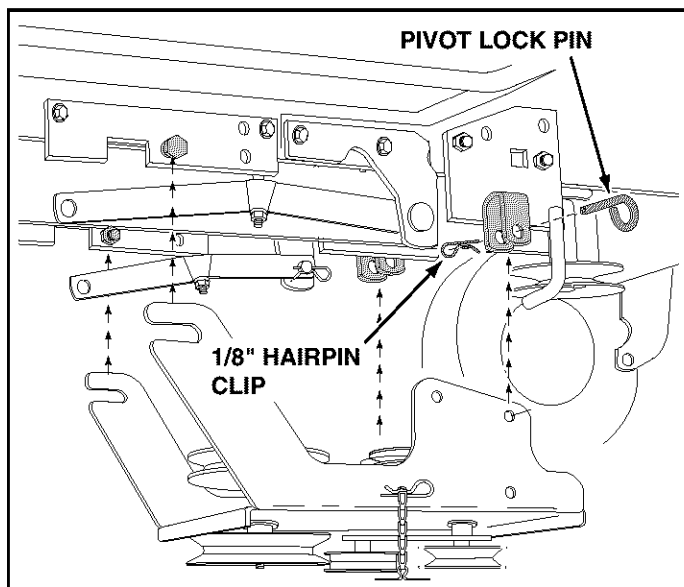

FIGURE 8
- Attach the rear of the clutch/idler assembly to the tractor frame by sliding the notched arms of the assembly onto the shoulder bolts assembled to the frame brackets. Lift the front of the assembly, positioning the upper idler pulley so that it clears the engine pulley. Attach the front of the assembly to the hanger brackets using two pivot lock pins and 1/8" hairpin clips. See figure 8.